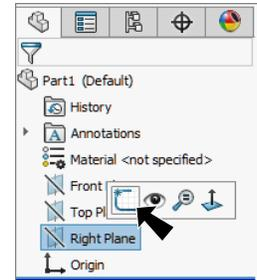

Fig. 1
- Step 2. Click **Right Plane**  in the Feature Manager and click **Sketch**  on the context toolbar, **Fig. 1**.
- Step 3. Click **Line**  (L) on the Sketch toolbar.